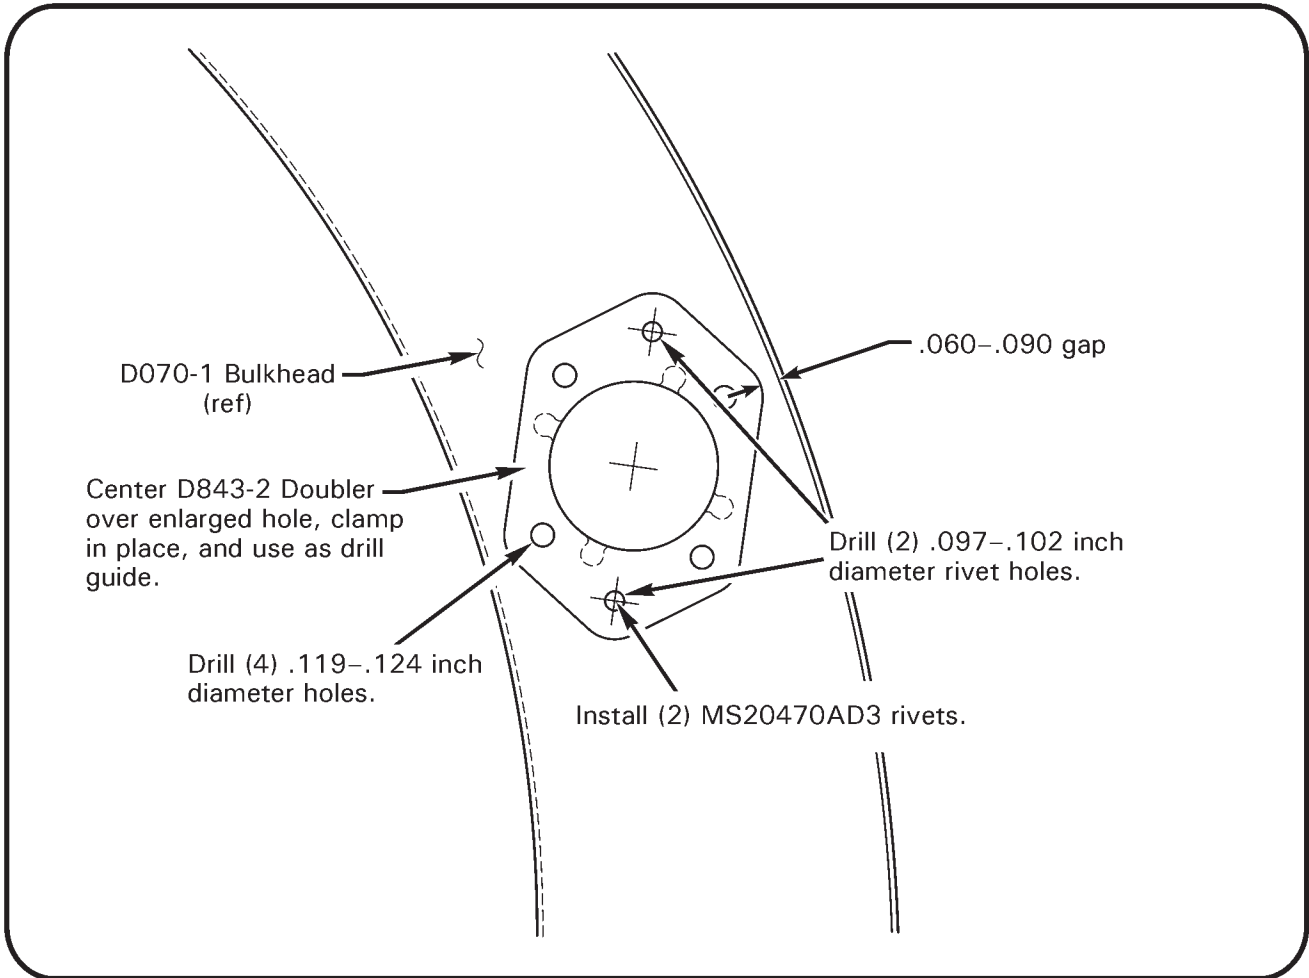

FIGURE 2 D843-2 Doubler orientation
3. Refer to Figure 2. Center D843-2 doubler on enlarged hole, rotate as required to ensure specified gap is not exceeded, and clamp doubler to bulkhead. Using doubler as drill guide, progressively drill specified holes and install clecos. Remove doubler. Deburr holes and clean up debris.
4. Cleco D843-2 doubler in position and install using (2) MS20470AD3-3.5 rivets through (2) .097-.102 inch diameter holes.